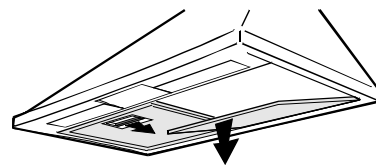

Fig. 3
- Push it towards the back of the unit and then pull it down and out. **Fig. 3**.